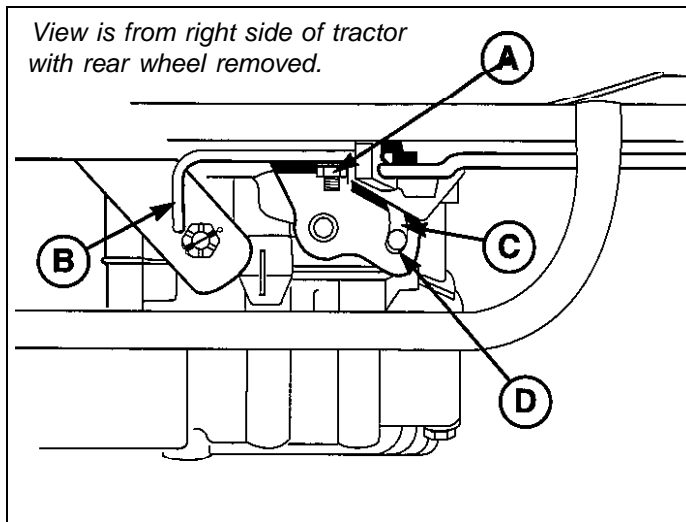

Figure 20. Neutral Adjustment - Hydro Model
3. See figure 20. Loosen the nut (A) securing the neutral adjustment rod (B). Move the rod until neutral is found, then retighten the nut.
4. The stop pin (D, figure 20) should be positioned $1/8''$ to $3/16''$ from the end of the cam slot (C, figure 20) as shown when the front pedal edge is $1/4''$ above the frame (pedal fully depressed). If it is not, proceed to the Forward Speed Adjustment procedure below.
4. The stop pin (D, figure 20) should be positioned $1/8''$ to $3/16''$ from the end of the cam slot (C, figure 20) as shown